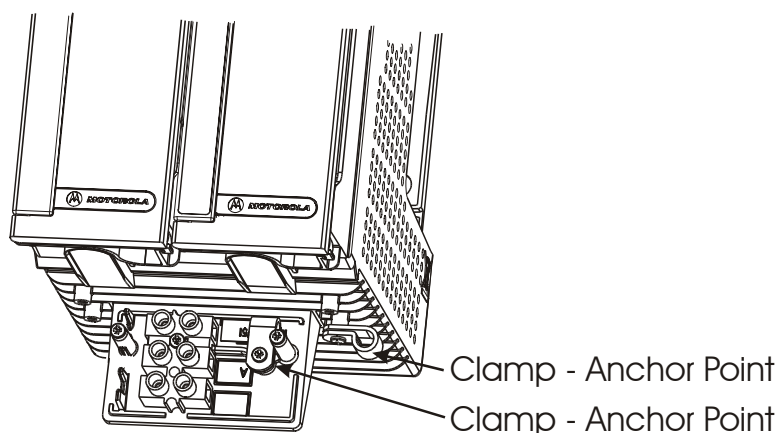

Figure 2-12 RTU on No I/O Frame – Cable Anchor Points 1 and 2
- Anchor point 1 for all units is inside the power junction box. (See Figure 2-12 below.)
- Anchor point 2 for the basic model (No I/O Slots Frame) is located on the right of the power junction box. (See Figure 2-12 below.)